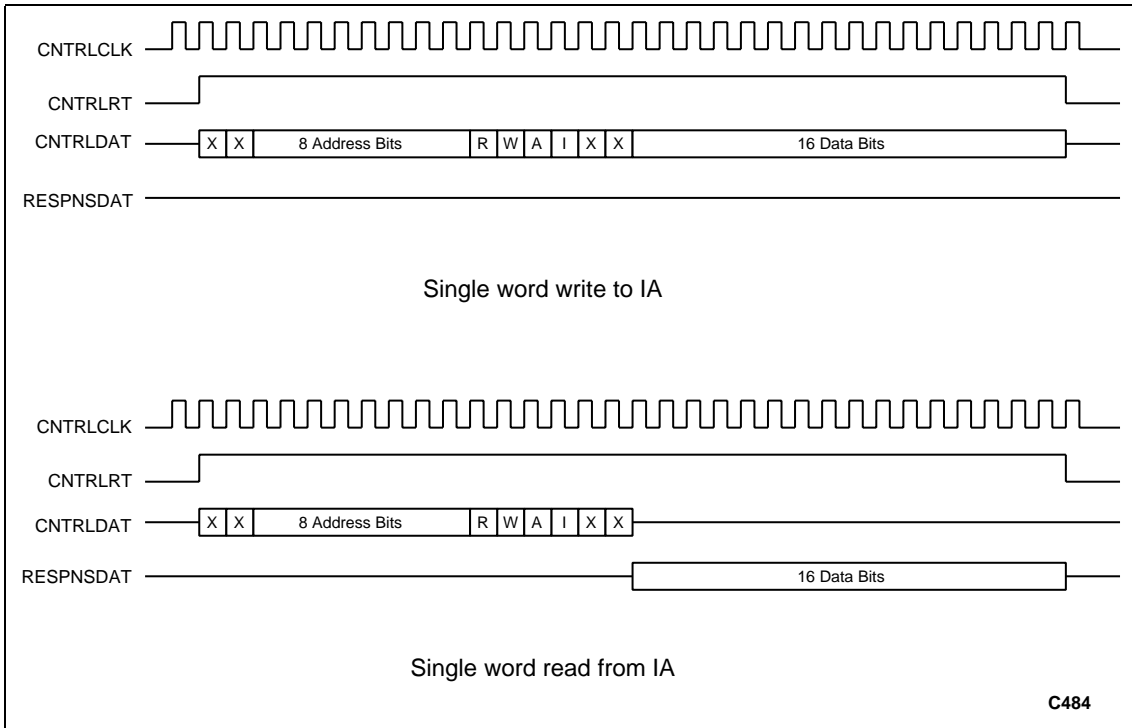

Figure 17. Control Interface Timing Diagram
4. Figure 17 shows the signal sequence for write and read operations over the control interface.